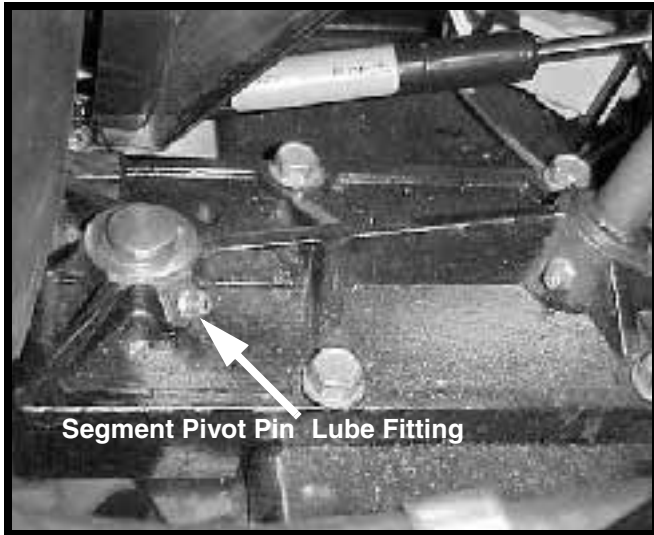

FIGURE 6
23. Grease the segment pivot pin on the top front portion of the steering housing. Location shown in FIGURE 6.